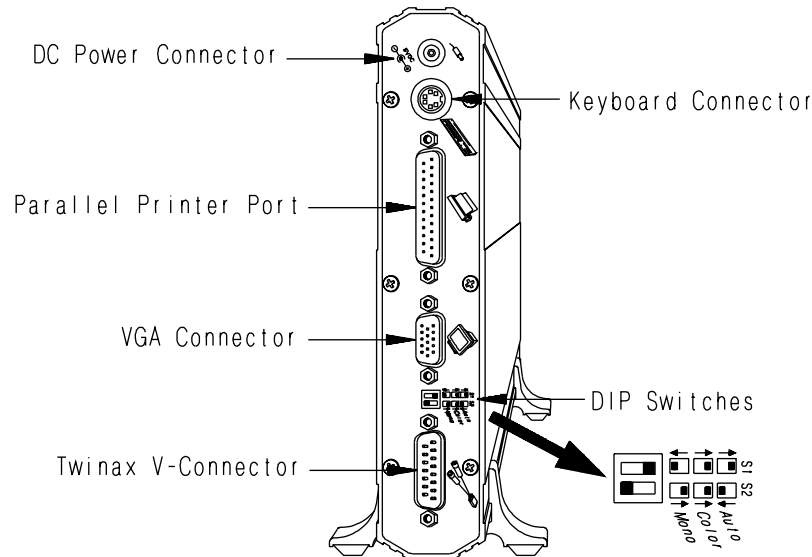

Figure 2
3. Connect the keyboard to the Mini-DIN keyboard connector located on the back of the display module. The top of the keyboard's connector is flat and marked by an arrow. While the unit is in the tower (vertical) position, as shown below, the arrow must be positioned to the right when inserting the connector (Figure 2).
4. Attach the auto-terminate twinax V-cable to the 15-pin "D" connector on the rear panel of the display module (see figure 2). Tighten the screws on both sides of the V-cable until they are secured tightly into the display module.